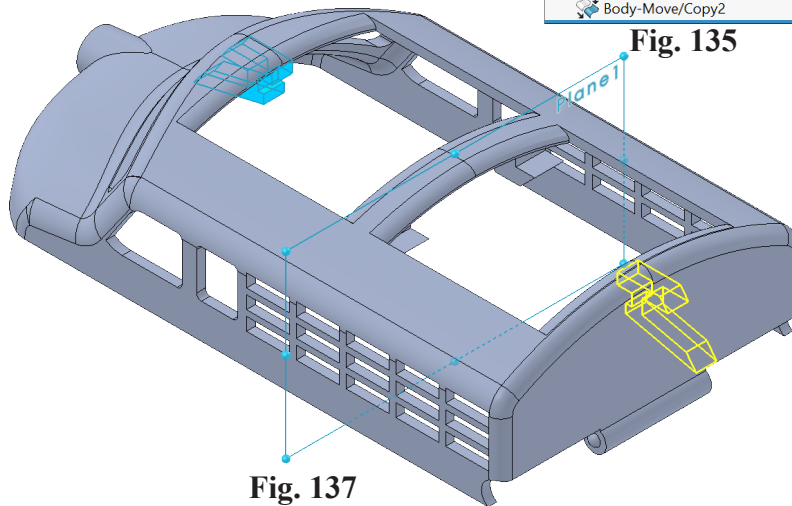

Fig. 137
Step 1. Rotate view to view rear, **Fig. 137**. To rotate view, in **Isometric**  view, **Shift** click the **Y**  axis of the Reference Triad